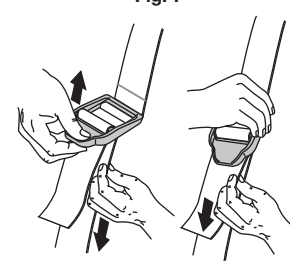

Fig. 9
4. Adjust length to fit the operator's size. Pull tab to lengthen, pull strap to shorten (Fig. 9).